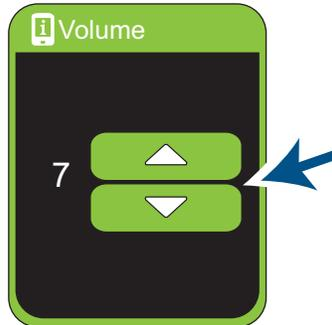

Figure 84. Increasing or decreasing the volume
4. Tap  or  to increase or decrease the volume (Figure 84).